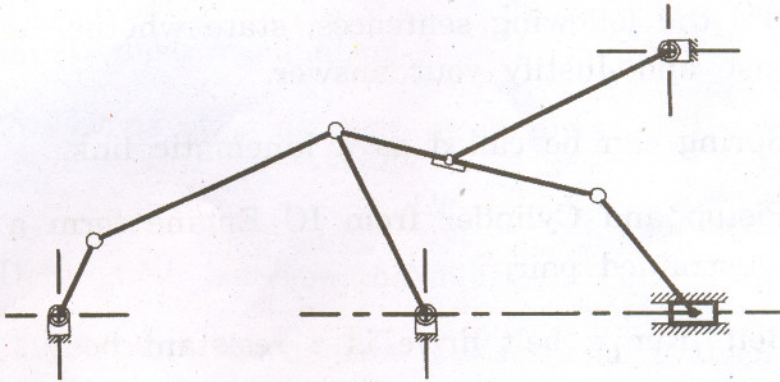

Fig. 1
- (5)link can transmit only compressive force.
- (6) The type of constraint in a cylindrical pair is.....
- (c) Fig. 1 shows schematic of a mechanism. Redraw the free-hand sketch on the answer-book. Find out the total number of kinematic links and number of kinematic pairs. Hence find out the degrees of freedom for the mechanism. [4]